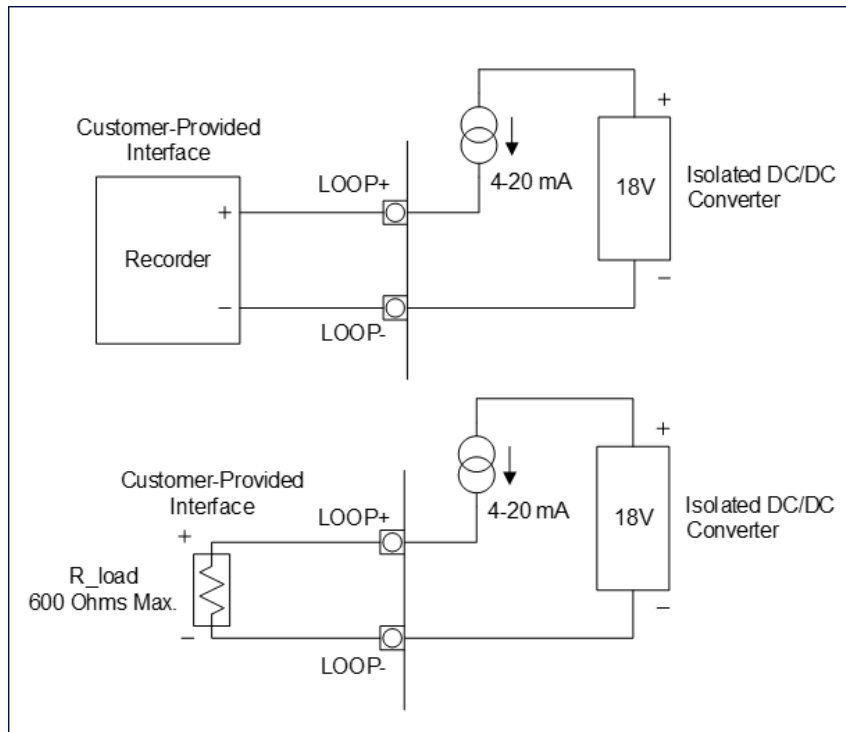

Figure 3-3: Typical 4-20 mA Circuit Applications
- 4-20 mA Analog Current Loop Outputs — Table 3-2, "4-20 mA Analog Outputs \(J4\)," on page 65 and "Figure 3-3: Typical 4-20 mA Circuit Applications" on page 66.
The data from the Analyzer can be recorded using the 4-20 mA outputs located on the J4 terminal block. Refer to the following pin-out information (Table 3-2.) and typical circuit applications (Figure 3-3) when installing 4-20 mA Analog output wiring.